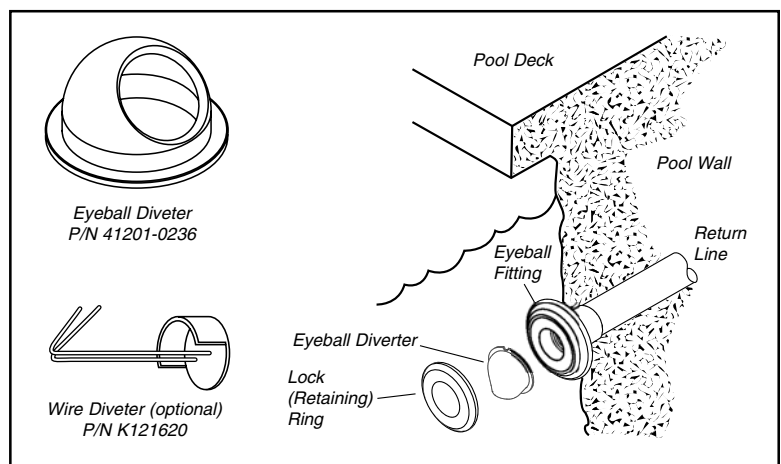

Figure 30.
3. Replace the original eyeball with the SandShark's eyeball diverter, (see Figure 30).